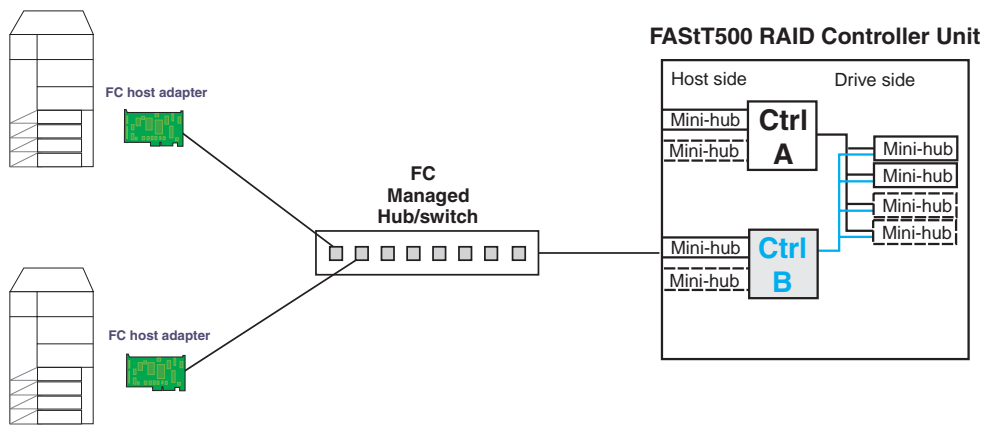

Figure 13. All I/O flowing through controller A
2. All I/O is flowing through controller A. This yields the diagram shown in Figure 13 for debugging.